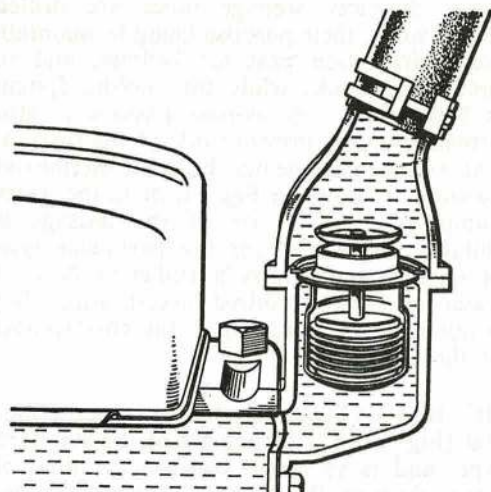

Fig. 9. TYPICAL THERMOSTAT
17. The temperature of the water can be controlled in several ways, one way being to control the flow of cooling air through the radiator by means of a "blind" or "shutters"; these are usually hand controlled, although there are examples where the shutters are thermostatically controlled, and can be set to maintain the required temperature as shown by the reading on a radiator thermometer. Another widely used method is the fitting of a thermostatically controlled valve (Fig. 9) to control the circulation of the water in the system.